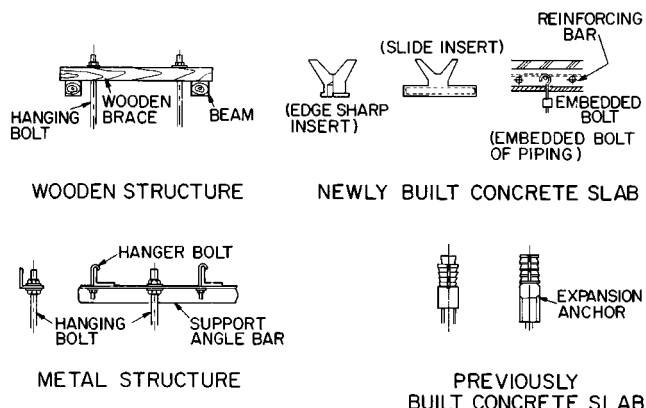

**Fig. 4 — Mounting Methods
2. Determine mounting method. On wooden beams, use field-supplied threaded rods, washers, and nuts to suspend support brackets. With metal structures, secure field-supplied threaded rods on an existing angle or install a new field-supplied support angle. On newly built concrete slabs, secure field-supplied threaded rods with inserts and embedded bolts. For previously built concrete slabs, install field-supplied hanging bolts with an expansion anchor. Refer to Fig. 4.
- b. Securely fasten $\frac{3}{8}$ -in. threaded rods to ceiling joists. Refer to Fig. 4.